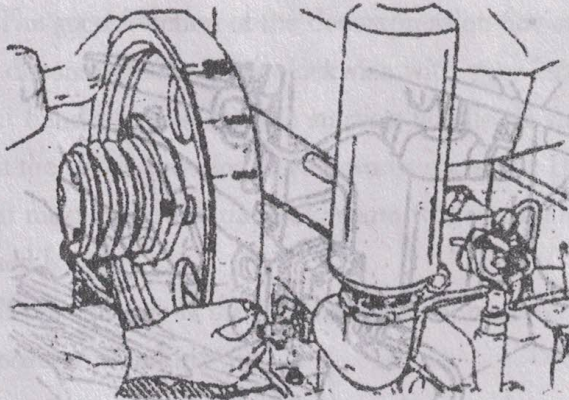

Fig. 12 Turning the flywheel to the required T. D. C. position
1. Turn the flywheel until the mark T. D. C. on its periphery coincides with the line on the hopper, in order to set the piston at its top dead center position in the compression stroke (Fig. 12).